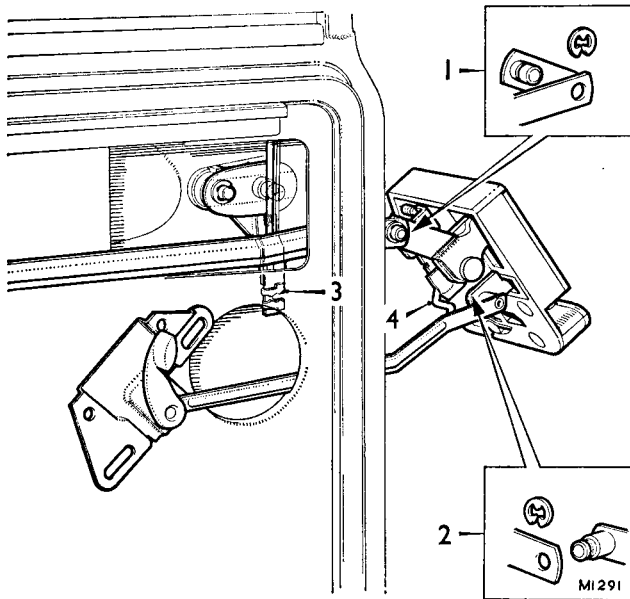

Fig. Rb.6
- 4. Pull or carefully prise the bottom of the key-operated lock link (3) off the latch locking rod (4) (see Fig. Rb.6).
- 5. Ease the latch outwards, remove the circlips securing the remote control (1) and the interior locking lever (2) to the latch (see Fig. Rb.6) and withdraw both units and the latch from the door frame.
- Refer to Fig. Rb.6. Ensure that the circlip securing the remote control lever (1) and the interior lock control lever (2) are correctly located, and that the latch locking rod (4) is engaged in the spring clip of the exterior handle lock link (3).